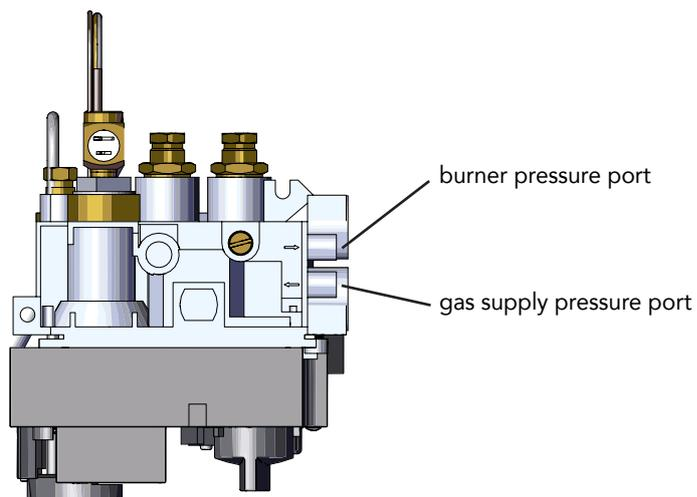

Fig 21
2. Release the screw on the Inlet Pressure test point on the gas valve and connect a manometer (Fig 21 p28).
7. Release the screw on the Burner Pressure test point on the gas valve and connect a manometer (Fig 21 p28).
It is essential to measure the gas supply pressure at the arrow pointing towards the inside of the gas block (Fig 21).